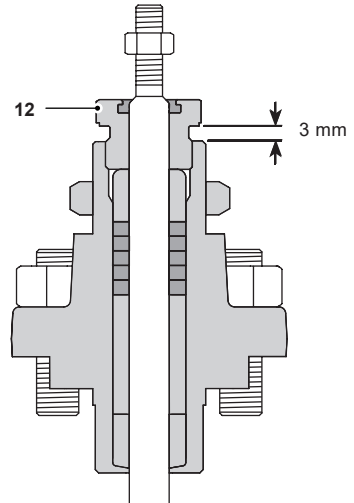

Fig. 23
- Tighten the gland nut (12) until:
- ii) Graphite gland assembly: A gap of 3 mm between the underside of the gland nut and the bonnet is achieved. See Figure 23.
- Refit the lock-nut (34).